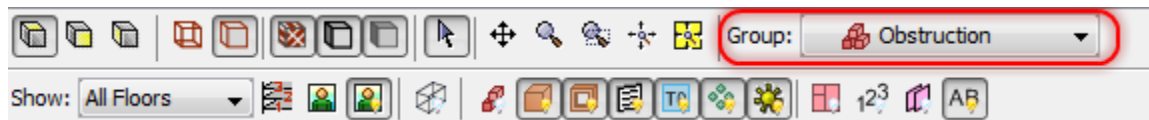

Figure 7.10. The Group drop-down
- For **newly drawn objects**, in the **3D** or **2D** view select the desired group from the group drop-down above the view as shown in Figure 7.10. All newly drawn objects will be added to this group.